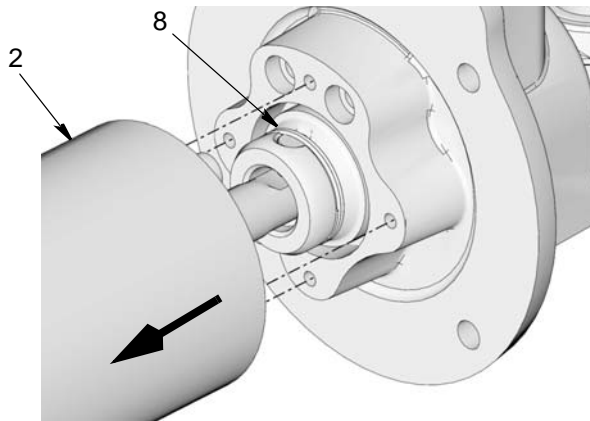

FIG. 25
10. Pull pump adapter (2) down to access retaining spring (8) (FIG. 25).